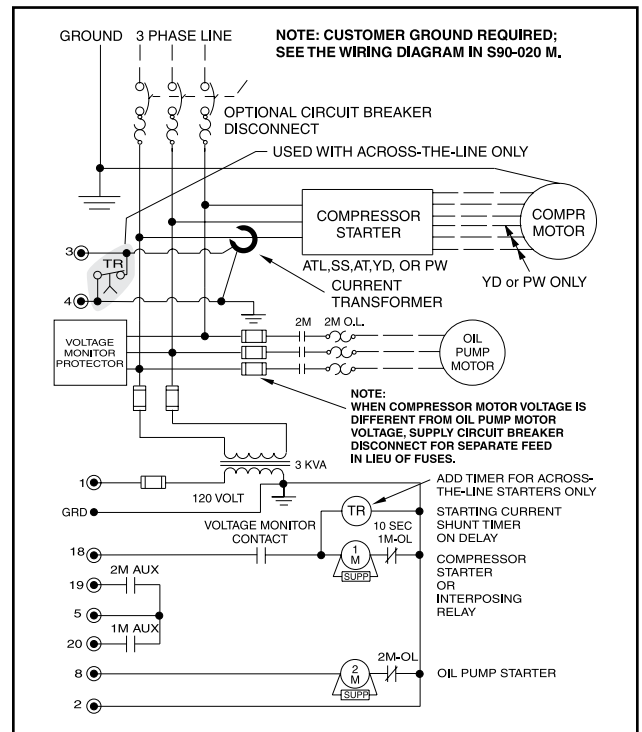

Figure 10 - Starter Wiring Diagram
CAUTION When starting at full voltage or across-the-line, a shunting device must be installed or the Analog I/O board in the Quantum™ LX panel may be severely damaged at start-up. See Figure 10.
Motor starter and interlock wiring requirements are shown in the diagram, Figure 10. All of the equipment shown is supplied by the installer unless a starter package is purchased separately from Frick. Starter packages should consist of:
4. One normally open compressor motor starter auxiliary contact should be supplied and wired as shown on the starter package wiring diagram. In addition, the compressor starter coil and the CPT secondaries should be wired as shown on the starter package wiring diagram, Figure 10.